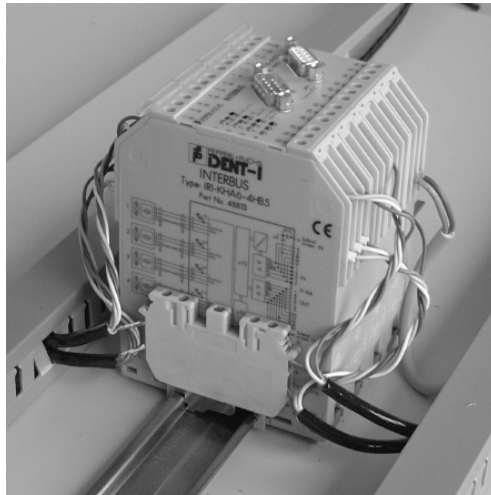

Figure 5.5 Terminal block with connecting cables
The screen of the read head lead is connected on both sides to earth (PE) with low resistance and low induction. For that the attached terminal block can be used (see figure 5.5.). Please make sure that the screen is kept as small as possible.